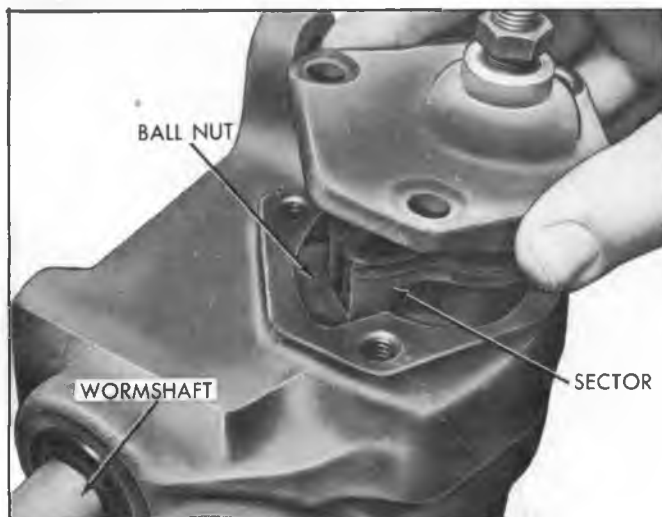

Fig. 5—Removing Pitman Shaft Assembly—Typical
4. Tap lightly on the end of the pitman shaft with a plastic hammer and lift the side cover and pitman shaft assembly from the gear housing (fig. 5).